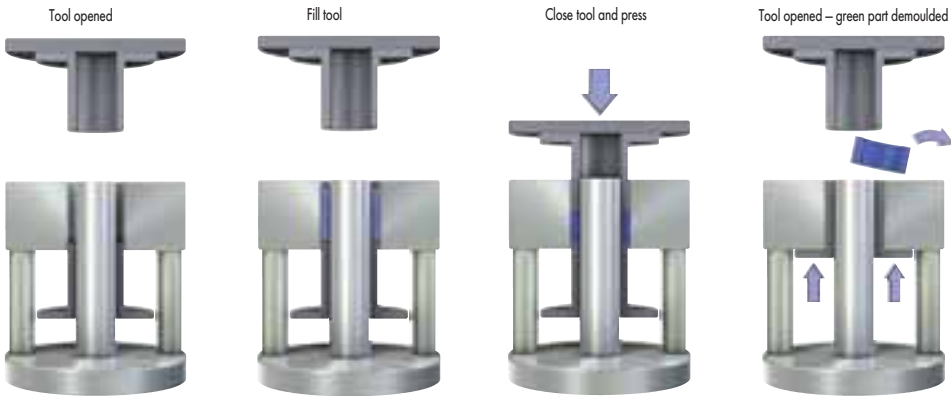

Fig. 23 Pressing of hollow cylinders
- Manual press-sinter procedure for the manufacture of semi-finished product (→ Fig. 23)